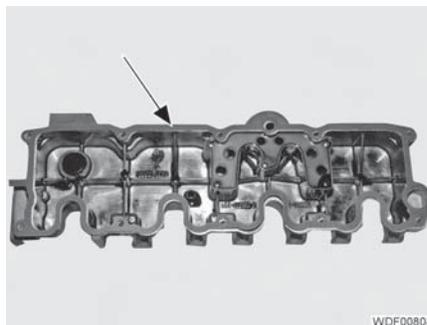

Fig. 6 Cylinder head cover seal
- Inspect the cylinder head cover seal (Fig. 6) and replace it if necessary.